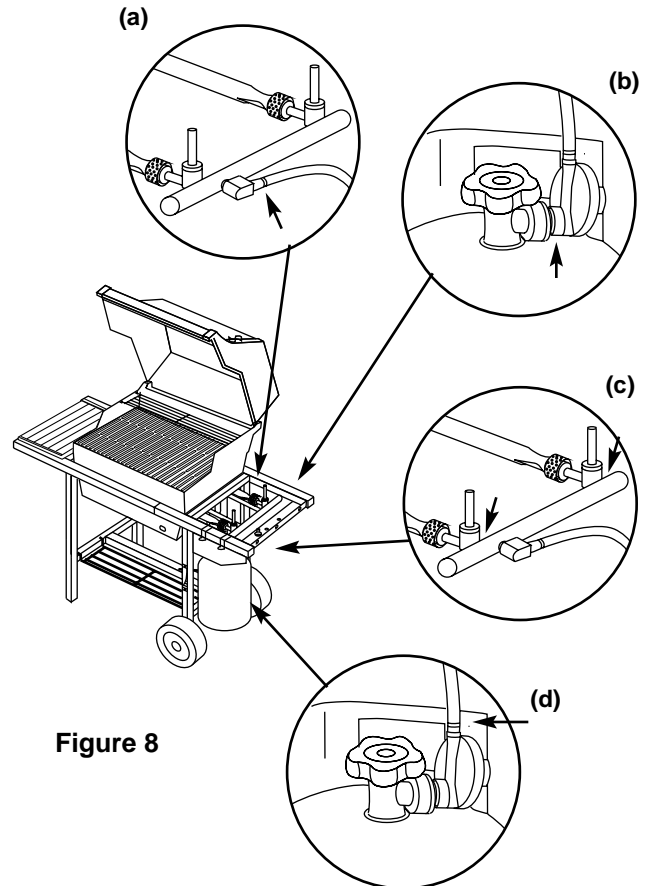

Figure 8
- a) Hose to manifold connection. Figure 8 (a).
- b) Regulator to tank connection. Figure 8 (b).
- c) Valves to manifold connections. Figure 8 (c).
- d) The hose to regulator connection. Figure 8 (d).